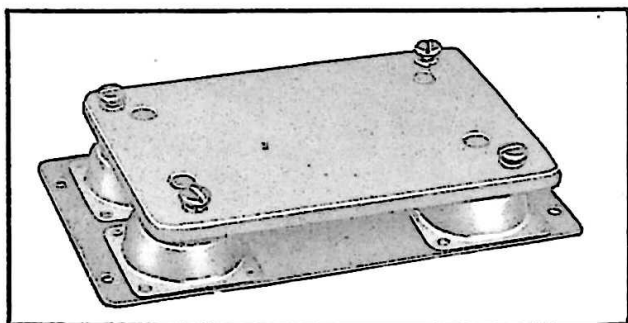

Figure 1-7. Mounting FT-486—Diagonal View
a. PREPARATION FOR INSTALLATION. — Each box must be prepared for installation by punching or drilling the necessary holes for mounting and wiring the equipment. Care should be taken to place the various holes so that the interconnecting wires, grommets, and mounting screws will not interfere with the jack terminal plates or strips, wiring or internal components of the cover assemblies, or the assembly of the covers to the boxes. Mounting holes and holes for interconnecting wiring should be located in accordance with data given on the applicable Air Force drawing. If Mounting FT-486 is required (see fig. 1-7) assemble the amplifier to the mounting as follows: